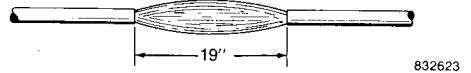

Fig. 106—Move cable ends.
- h. Move cable ends together to create proper splice opening. See Figure 106.